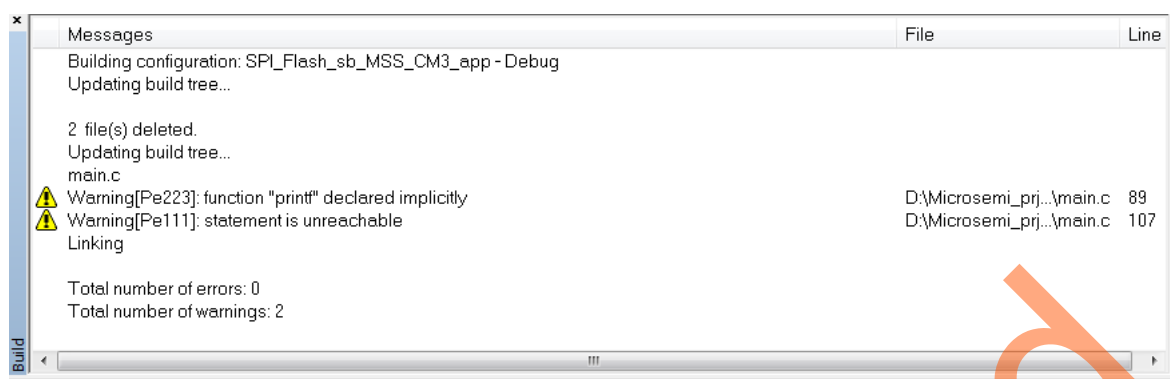

**Figure 35 • IAR Workspace - Deleted Files**
18. After cleaning the project, the **Messages** log section shows that some files are deleted, as shown in Figure 35.